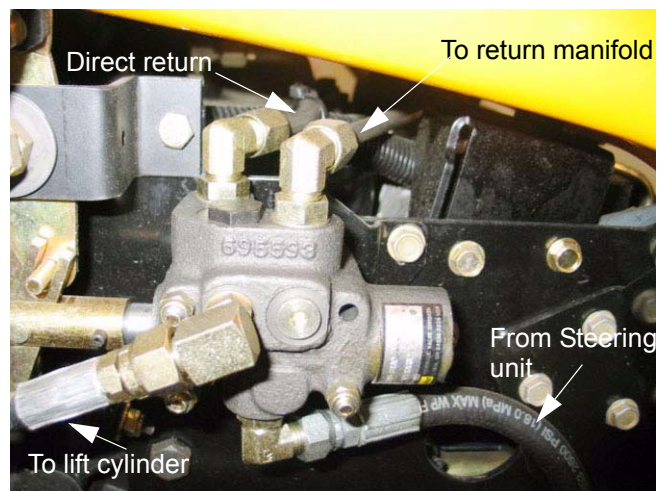

Figure 1.9
1.9. The lift cylinder is operated by a control valve and feedback rod under the right rear fender. See Figure 1.9.